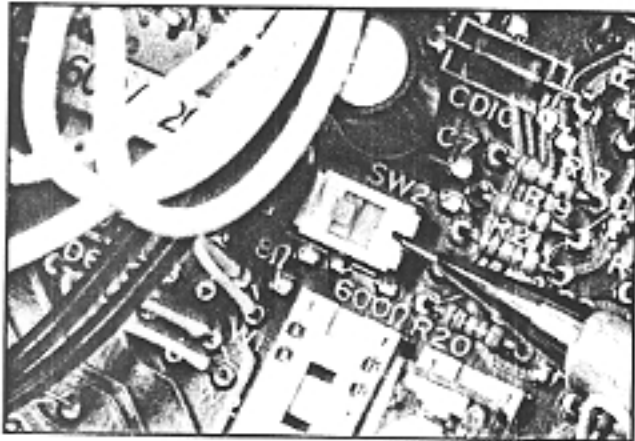

FIGURE 9—MTOU SW2 SWITCH
06.13 External page impedance is selected with the SW2 switch located adjacent to the relay sockets on the MTOU (Figure 9). Decide if 8 or 600 Ω impedance is required, then make the selection by positioning the SW2 switch to "8" or "600", whichever is required. Figure 9 shows the switch in the 8 Ω position.